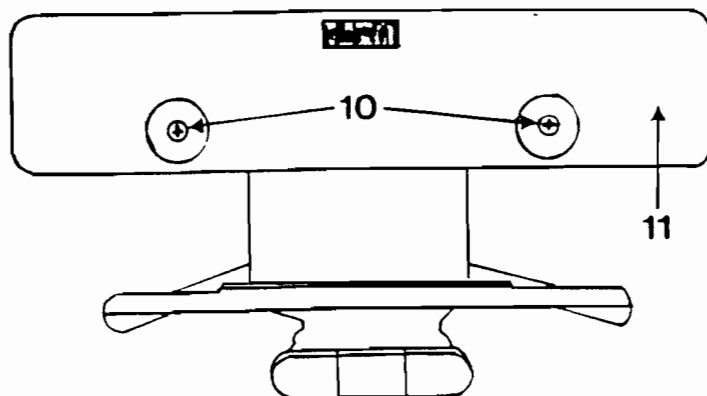

FIG. 3
Remove two screws (10) Fig. 3. and remove heat shield (11).